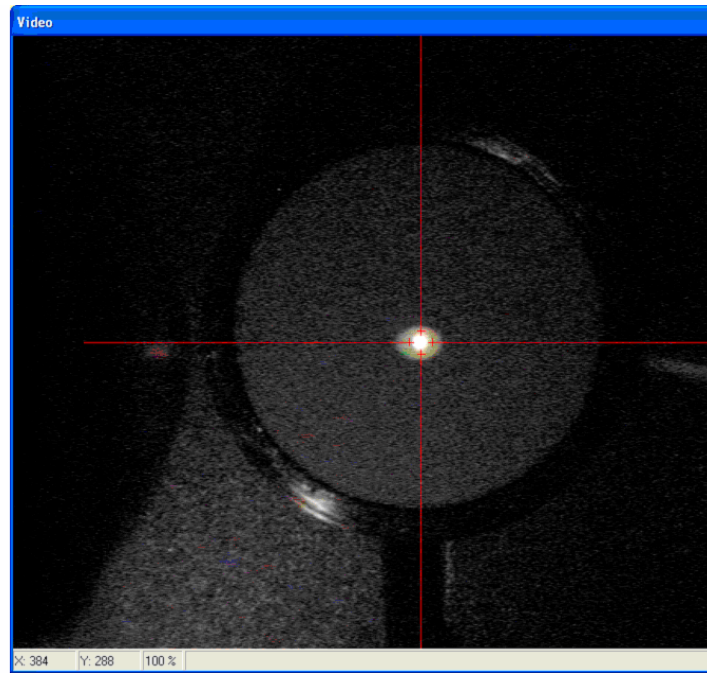

Fig. 36: Congruency of X-ray beam, laser positioning spot and crosshairs
The optical axes of the laser spot, the X-ray beam, the crosshairs in the video image and the X-ray detector must intersect in the measuring plane at the same point (see Fig. 36). An X-ray fluoroscopic system is integrated into the transport lock to check the axes. This X-ray fluoroscopic system is exactly in the pre-defined measuring plane.
4. If may be necessary to set the sample lighting, the tube current and the laser positioning spot (see Fig. 36) such that the brightest possible X-ray focal spot is visible in the camera image.
5. Using the camera image in software, check whether the axis and field of vision with crosshairs lie above one another congruently (see Fig. 36)